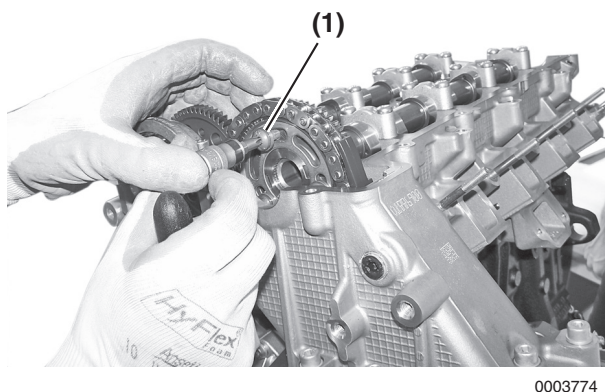

Figure 5-75
2. Loosen one bolt (Figure 5-75, (1)).